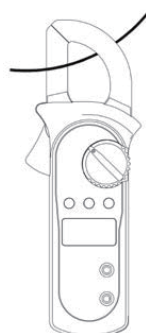

Figure 8
F. Measuring AC Current (See Figure 8)**Warning**